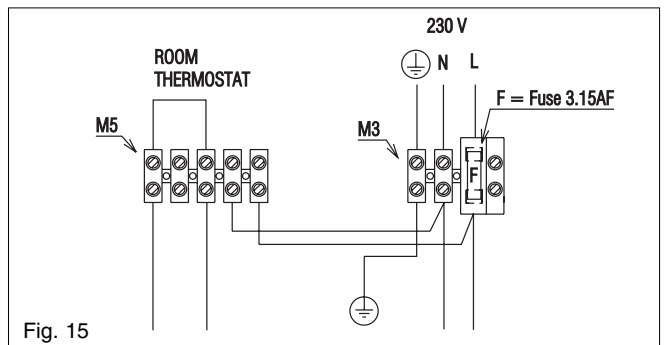

Fig. 15
4.7.3 CONNECTING THE MAINS (230V) INPUT (fig. 15)